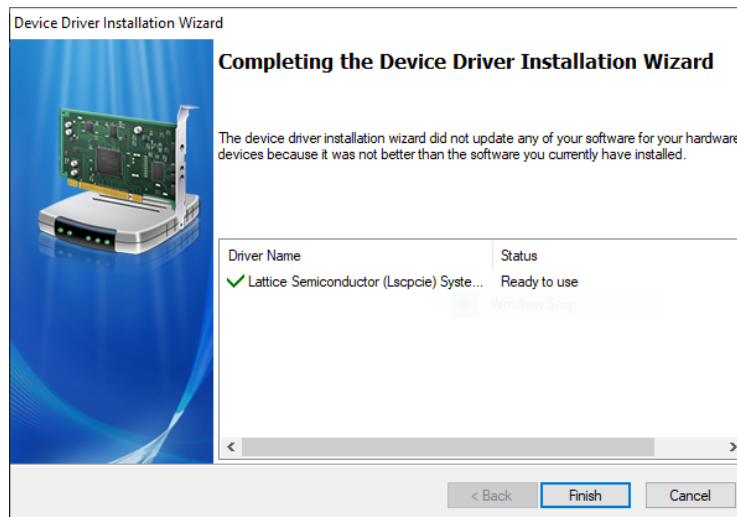

Figure 5.35. Device Driver Installation Completed
9. If the driver is installed successfully, a message is displayed as shown in Figure 5.35. Click **Finish**.